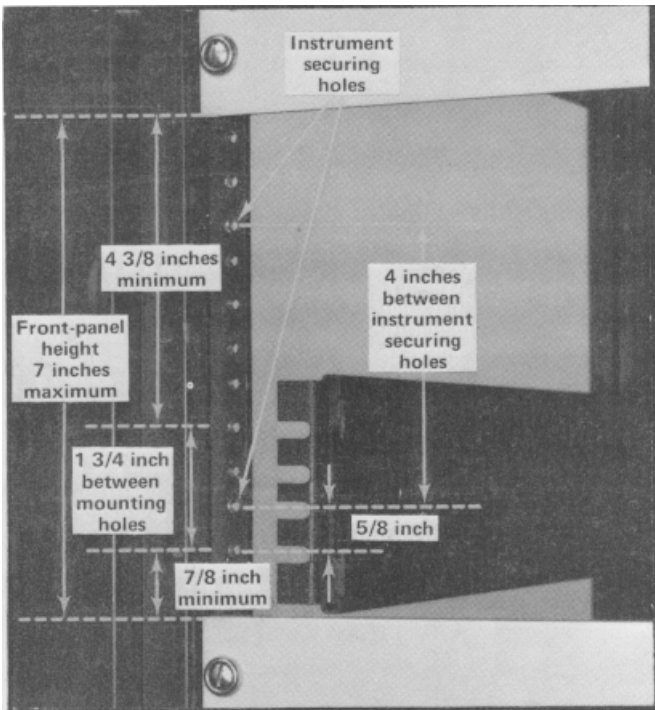

Fig. 6-3. Locating the mounting holes for the left stationary section. Same dimensions apply to right stationary section.
1. Select the proper front-rail mounting holes for the stationary sections using the measurements shown in Fig. 6-3.